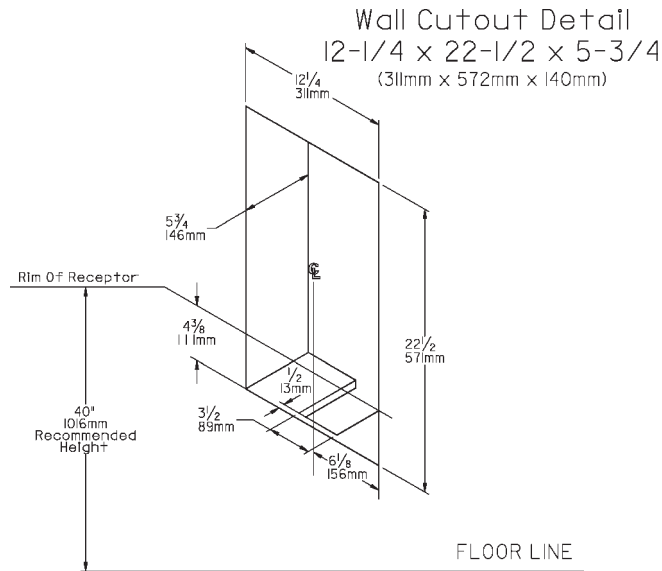

FIG. 2
1. Prepare the wall cutout opening(s). Refer to Wall Cutout Detail (See Fig. 2).